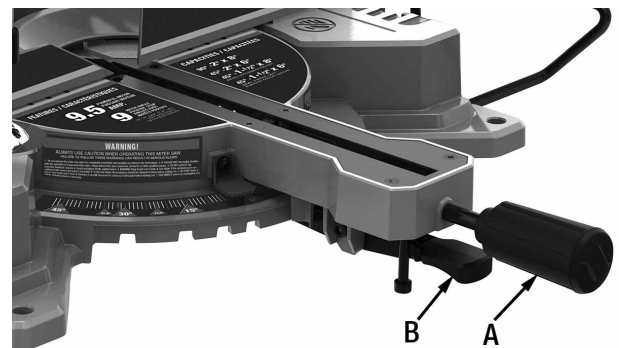

FIGURE 15
1. Loosen miter lock knob (A) Fig.15, and lift the positive stop lever (B). While holding the miter lock knob, move the saw table to the desired angle. Retighten miter lock knob.